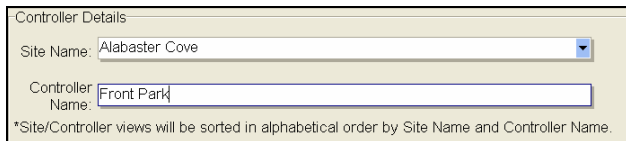

Figure 4.1.3
4. Next click on the box marked “**Controller Name:**” (Figure 4.1.3).